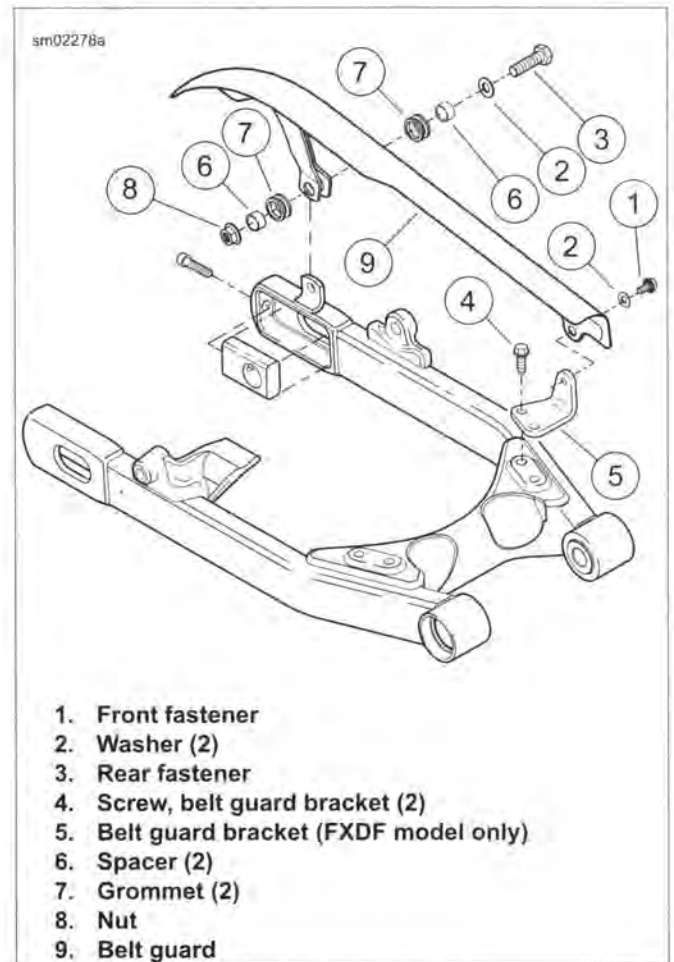

Figure 2-110. Belt Guard
1. See Figure 2-110. Remove front fastener (1) and washer (2).
2. Remove rear fastener (3) and washer (2) from nut (8).
3. Lift belt guard (9) away from rear fork.
4. Disassemble belt guard by removing grommets (7) and spacers (6).
1. See Figure 2-110. If removed, install grommets (7) and spacers (6) on belt guard.
3. Loosely install front fastener (1) and washer (2).
4. Loosely install rear fastener (3) and washer (2) with nut (8).
5. Tighten front fastener (1) to 120-180 **in-lbs** (13.6-20.3 Nm).
6. Tighten rear fastener (3) and nut (8) to 120-180 **in-lbs** (13.6-20.3 Nm).